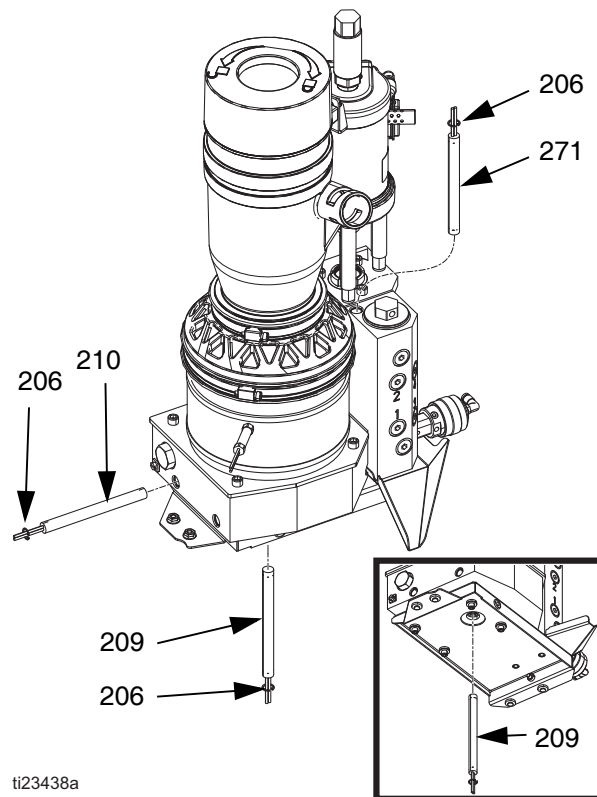

FIG. 42
Disassembly (see FIG. 42):
Reassembly (see FIG. 42):
2. Install heater rod then install heater rod retaining ring (206). See FIG. 42.